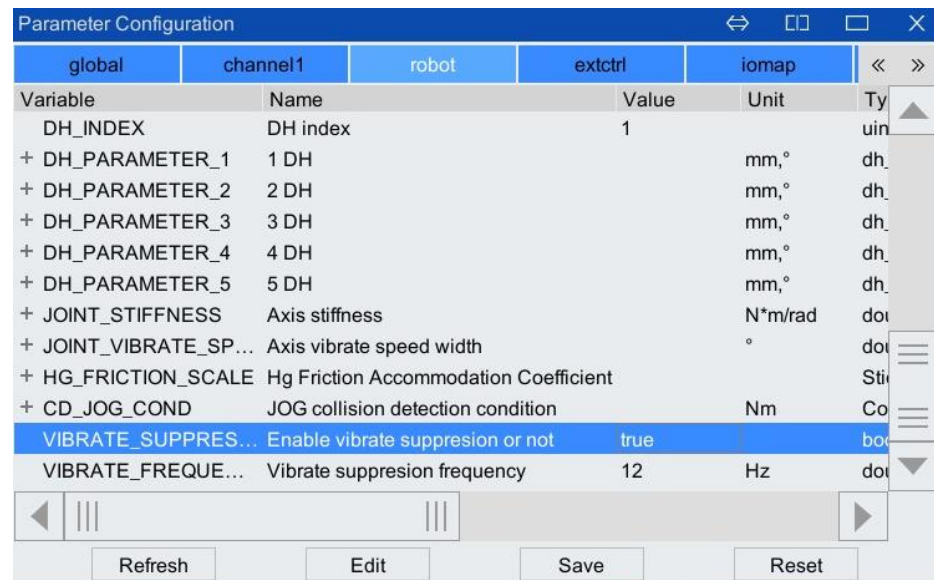

Figure 10-13 [Robot] tab
Step3. In the [Robot] tab, select "Enable vibrate suppression (VIBRATE\_SUPPRESSION\_ENABLE)", and click the <Edit> button. As shown in Figure 10-13.